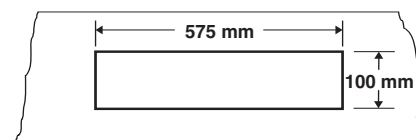

Fig. 3.3 - Plinth opening (plinth mounting)
- 3.3 **Plinth mounting** - As an alternative to floor mounting the unit may be fitted into the plinth. For this application cut the plinth to the dimensions as shown in Fig. 3.3.